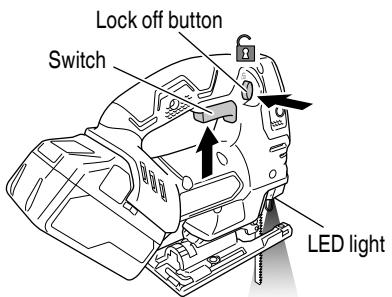

Fig. 22
2. How to use the LED light (Fig. 22)